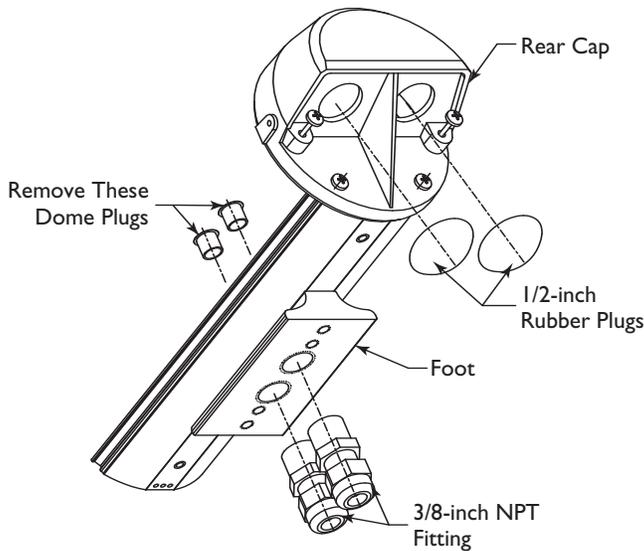

Figure 8: Feed-through Wiring
1. Prior to mounting the camera, remove the two dome plugs located inside the housing. See **Figure 8**.